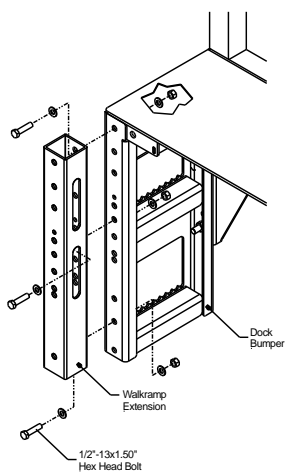
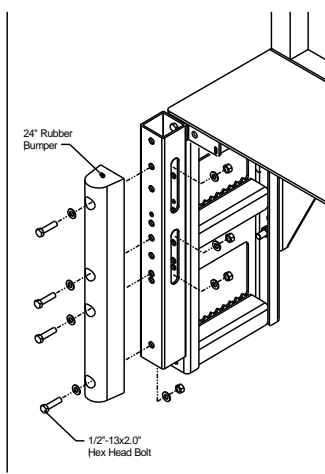

Fig.40
Fig.41
4. **Walk Ramp Extension:** Walk Ramp Extensions should be used for the Walk Ramp application. Install them onto the dock bumpers using three 1/2"-13x1.5" bolts, washers, and nuts for each walk ramp extension, **Fig.40**. Next, install the rubber bumper onto the Walk Ramp Extension, **Fig.41**. Install the Walk Ramp Extension Caps after all bolts have been tightened, **Fig.42**. *Note: Rubber bumpers will vary depending on required specifications. The Walk Ramp Extension will accept a variety of rubber bumpers (5", 16", 24"), shown below is the 24" rubber bumper.*